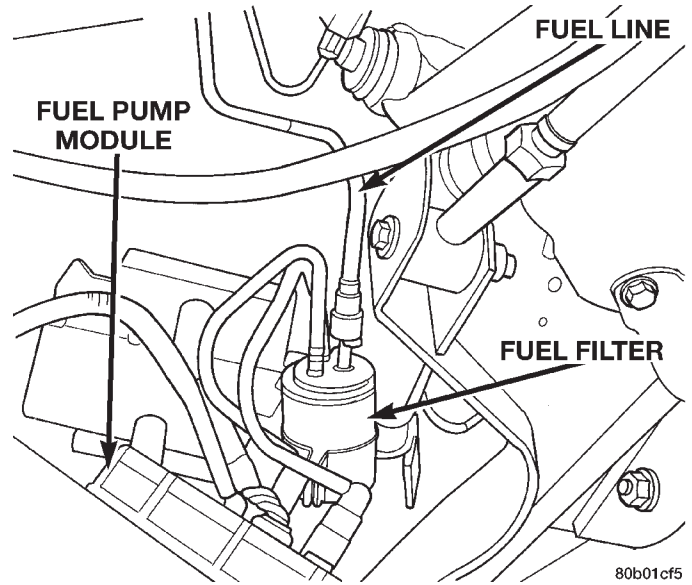

Fig. 13 Fuel Line
(6) Disconnect fuel line (Fig. 13).